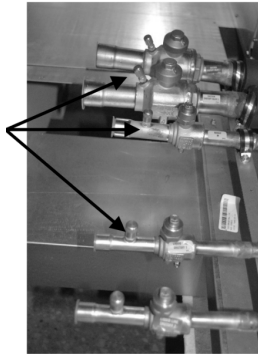

Figure 6: CU Connections
5. Connect the manifold set to the condensing unit with one hose on the suction line service valve, one hose on the liquid line service valve, and a third hose on the reheat line service valve. The vacuum pump must be connected to the manifold set using a 9.5 mm (3/8") vacuum rated hose. Figure 6 shows two circuits. The first circuit has a reheat line, and the second circuit is just the suction and liquid line. Both circuits must be evacuated separately.